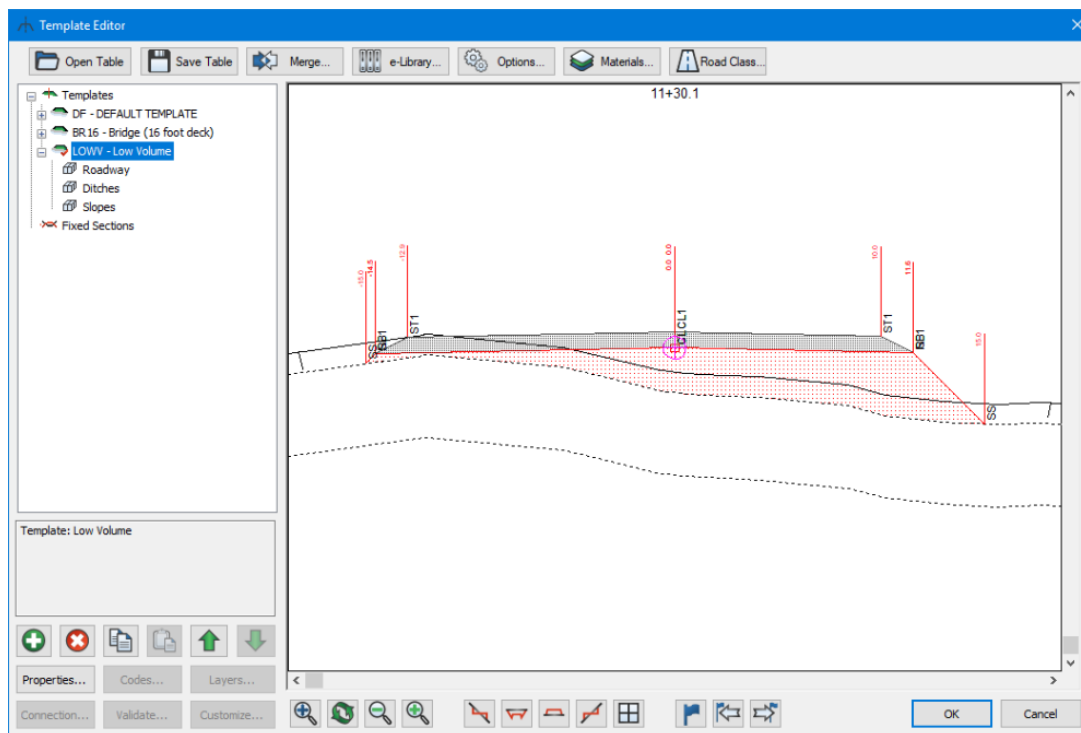

Figure 16-1: *Template Table Editor* Dialogue Box
2. *Home* | *Templates*, to open the *Template Table* editor shown in Figure 16-1.